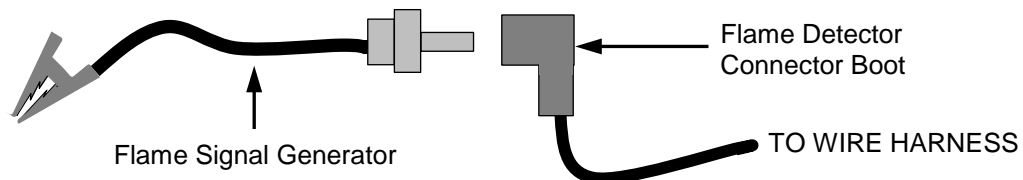

Figure 6.4a: Connecting the Flame Signal Generator
- b) Push the BACK button three (3) times to return to the upper level menu.
- c) When the Controller gets into the ignition phase, the Control Panel will show *IGNITION TRIAL*. At that point attach the alligator clip (see Figure 6.4a) to any bare metal surface or ground. The C-More display should now show *FLAME PROVEN* and begin to ramp up to 100% fire rate. Note that no gas or flame is present in the boiler at this time.